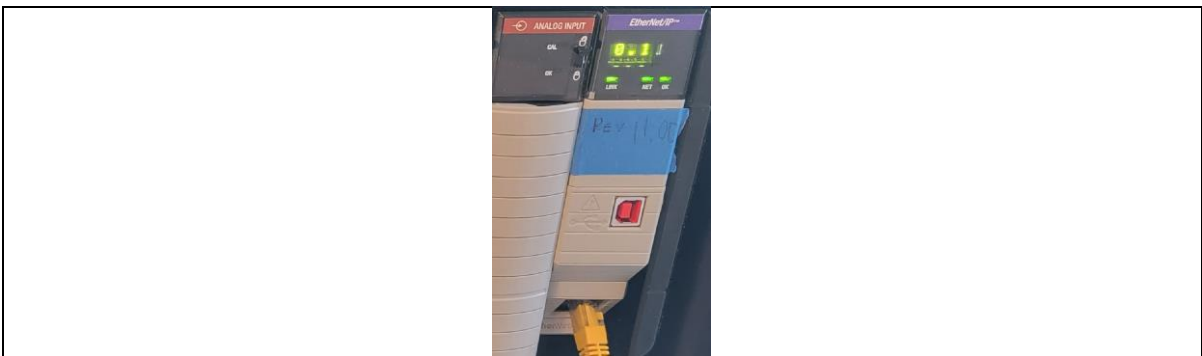

Figure 3. Ethernet/IP module on the ControlLogix chassis.
3. **Identify the Ethernet/IP module** on the chassis as shown in Figure 3.